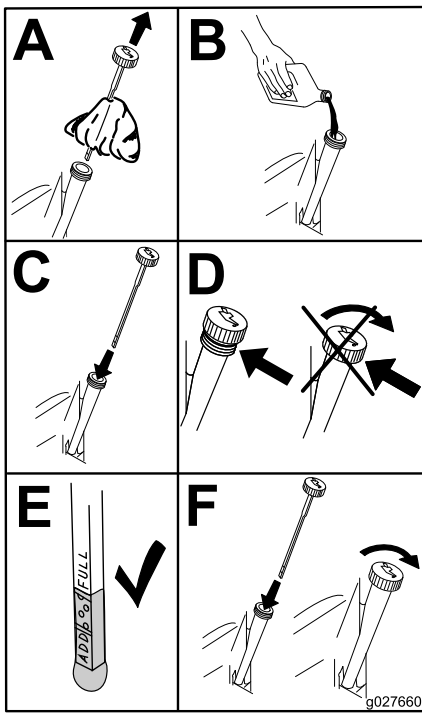

Figure 37
5. Slowly pour approximately 80% of the specified oil into the filler tube and slowly add the additional oil to bring it to the **Full** mark (Figure 37).